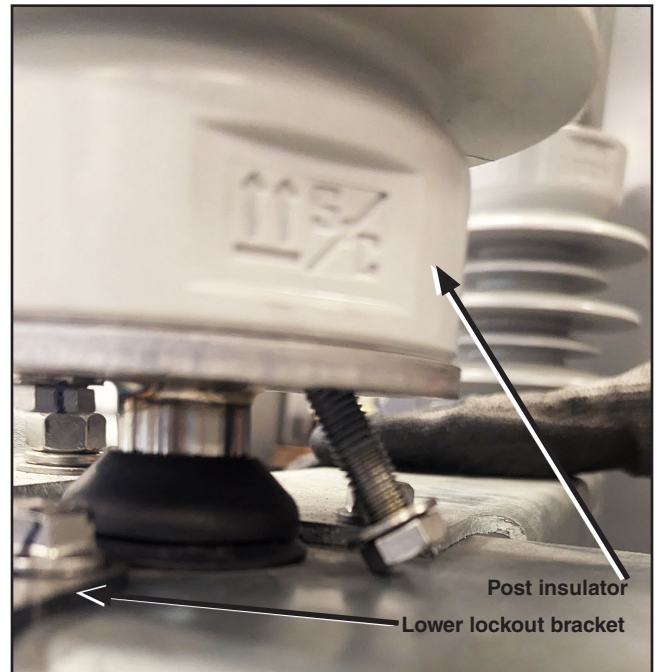

Figure 8. Removing the bottom post insulator bolt.
- STEP 5.** Remove the bottom post insulator bolt at the right of the lockout bracket using a $\frac{9}{16}$ -inch wrench. The bolt must be twisted out to be removed. See Figure 8.